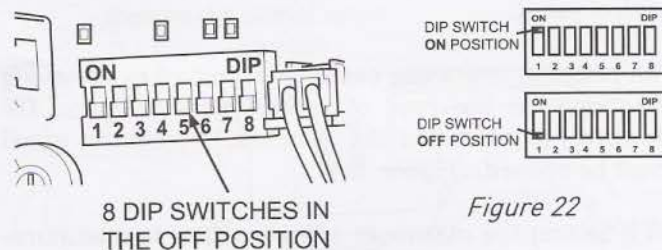

Figure 22
15.4 Setting the 45 seconds delay: The boiler is factory set to exclude the delay of 45 seconds before re-ignition between the closing of a hot water tap and CH start-up. This delay can be set to 45 seconds by setting dip switch '3' (Figure 22) into the OFF position.
15.5 255 seconds delay setting: The boiler is capable of up to 255 seconds ignition delay (anti cycling time) before re-ignition following burner shut down on the primary hydraulic water reaching its set temperature. This delay can be increased up to a maximum of 255 seconds by turning potentiometer P5 (Figure 22) clockwise.
15.6 Pump working mode setting: The boiler is factory set to operate the pump for a period of 45sec before and after a heating cycle. This delay can be cancelled by setting dipswitch '2' (Figure 22) to the ON position. However, this is not recommended as the boiler over-heat thermostat may trip out, causing lock-out of the boiler.
15.7 Setting the Heating output: The B24 boiler is factory set to give mid range central heating output. The maximum and minimum heat output for heating and domestic hot water may be adjusted, if required, using potentiometers P2 (Figure 22).